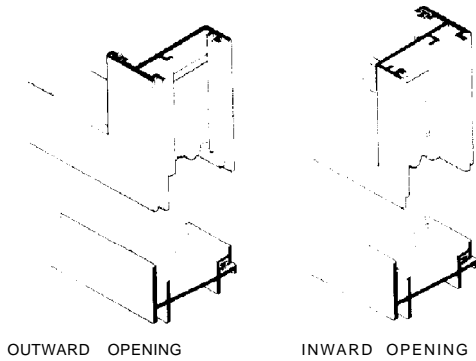

FIG. 4
A. Apply silicon or equivalent sealant to the inner under channel of the drainage tray and place it into position in the sub-frame. FIG. 4.